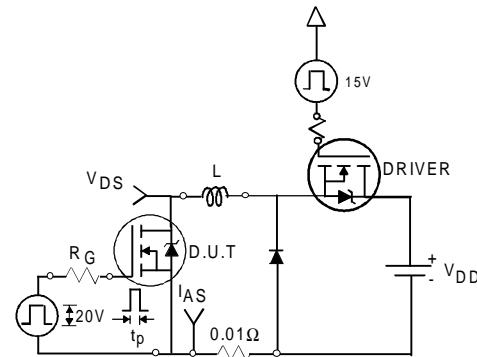

Fig 16c. Unclamped Inductive Test Circuit
- ② Pulse width $\leq 400\mu\text{s}$; duty cycle $\leq 2\%$.
- ⑤ $I_{SD} \leq 1.9\text{A}$, $dI/dt \leq 197\text{A}/\mu\text{s}$, $V_{\text{DD}} \leq V_{(\text{BR})\text{DSS}}$, $T_J \leq 175^\circ\text{C}$
- ③ Surface mounted on 1 in square Cu board
- ⑥ Limited by $T_{J\text{max}}$, see Fig.16c, 16d, 19, 20 for typical repetitive avalanche performance.